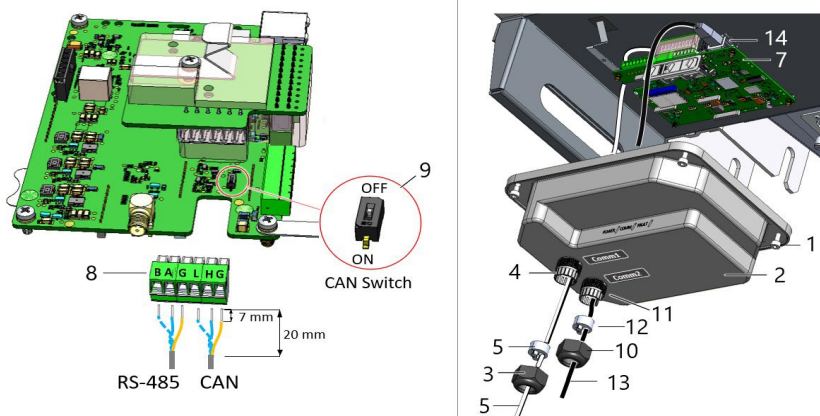

Figure 36 Connecting the communication cables
4. Release the four Allen screws (1) of the communication compartment cover (2) and remove the cover (See Figure 36).